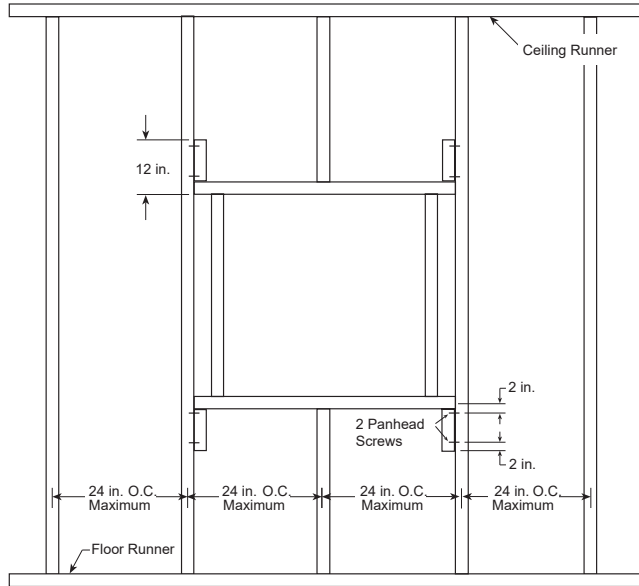

Figure 1
- Frame wall openings as shown below (see **Figure 1, 2, & 2A**).
- Gypsum wall board must be fastened 12 in. (305 mm) on center (O.C.) to all stud and runner flanges surrounding opening (see **Figure 1, 2, & 2A**).